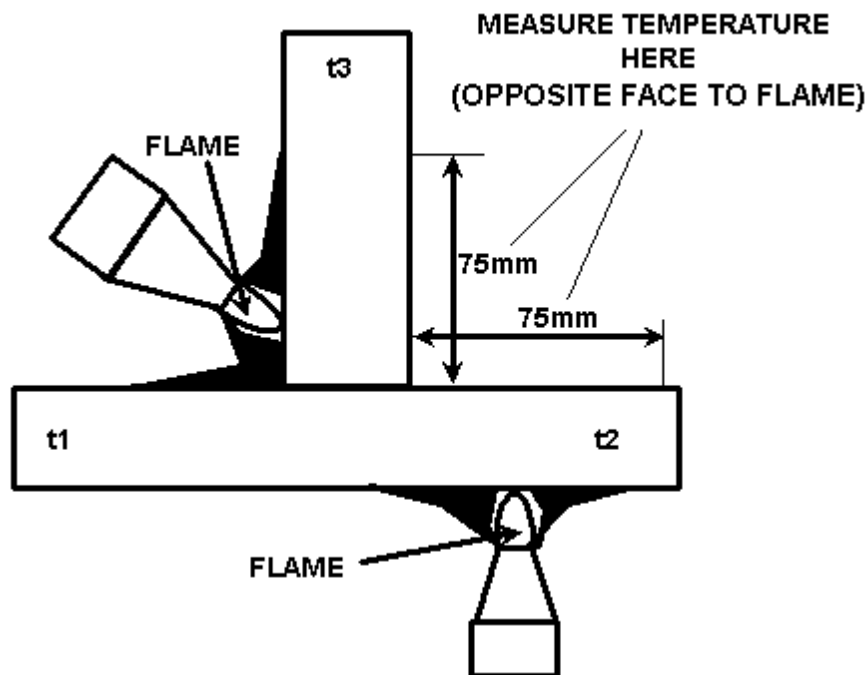

Fig 1. Recommended preheat zone and location of preheat temperature measurement
- When preheating, follow the guidelines illustrated in Figure 1.
\* CJT- Combined joint thickness  $t_1+t_2+t_3$  see Figure 1. \*\*Calculation based on heat input [Heat Input (kJ/mm) =  $(V \times A \times 0.06) / TS$  (mm/min)] of **1.7kJ/mm** and maximum hydrogen level of **5ml/100g**.
Again **Lincoln®E309** and **E312** consumables are also suitable for welding EHSP to austenitic manganese steels, with the correct preheat and arc energy input for both steel types. The manganese steel requires a maximum interpass temperature of 250°C (controlled as per Figure 1.) and fast cooling from welding temperature to avoid cracking of the manganese steel component.